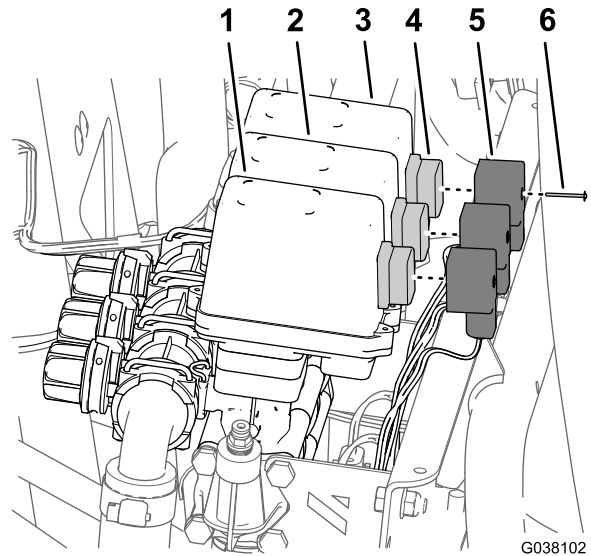

Figure 6
1. Remove the screw that secures the 3-contact connector of the wire harness labeled RIGHT SPRAY VALVE from right spray valve (Figure 6).
2. Remove the 3-contact connector of the wire harness from the spray valve (Figure 6).